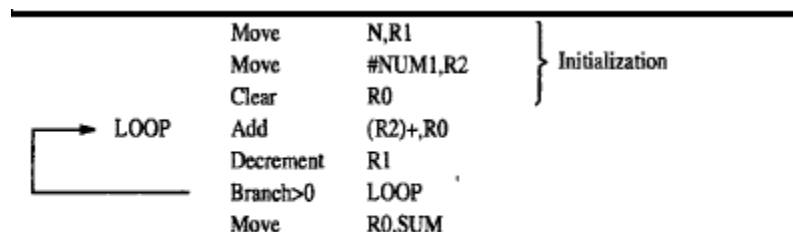

Figure 2.16 The Autoincrement addressing mode used in the program of Figure 2.12.
- Effective-address of operand is contents of a register specified in the instruction (Fig: 2.16).